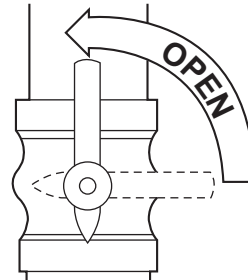

Fig. 15 - Open Valve
9. Open the external manual gas valve. (See Fig. 15.)